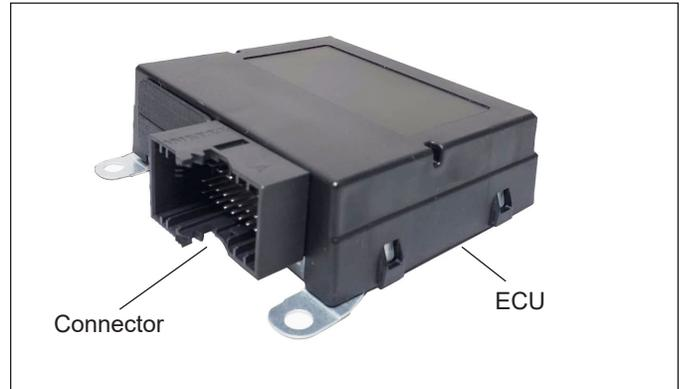

Figure 4 – Steering Assist Electronic Control Unit (ECU)
- The Electronic Control Unit (ECU) for the Steering Assist System is a standalone unit designed to work with J1939 Vehicle CAN and applicable system components. See *Figure 4*.